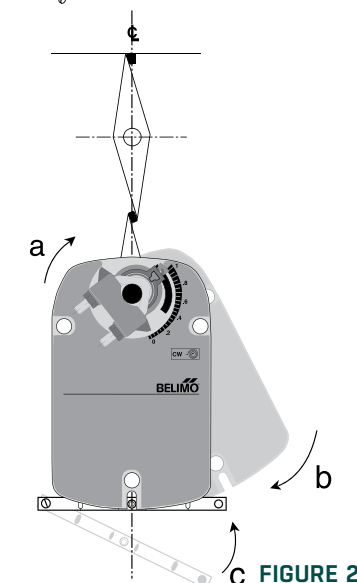

FIGURE 27
Confirm the damper is now fully closed (position a in FIGURE 27), but the actuator is 5° from fully closed. This is called "pre-loading" the actuator. When the actuator is powered and sent to the closed position it will put its full torque on the shaft compressing the edge and blade seals. The actuator is electronically protected from overload and will not be damaged.
- 5) Rotate the actuator to apply pressure to the damper seals (see **B** in FIGURE 27) and re-engage the anti-rotation strap (see **C** in FIGURE 27).